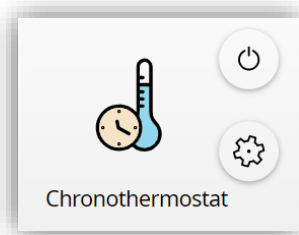

Figure 106. Chronothermostat box
- **Enablement** [0 = Disable; 1 = Enable / 0 = Enable; 1 = Disable]: selects the polarity of the control object "[Ci] Chronothermostat: Enable", which will enable or disable the chronothermostat analogously as from the on-screen switch button of the box (see Figure 106). The box configured as a chronothermostat control looks as follows: